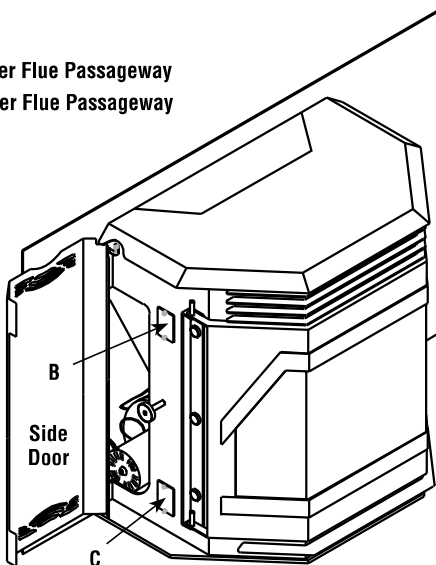

Figure 36A
1. Open both the right and left side door to locate side flue passageways (see **Figure 36A**).
2. There is one upper and one lower, 1" x 2", flue passageways on both the left and right sides (see **Figures 36A, 36B and 36C**).